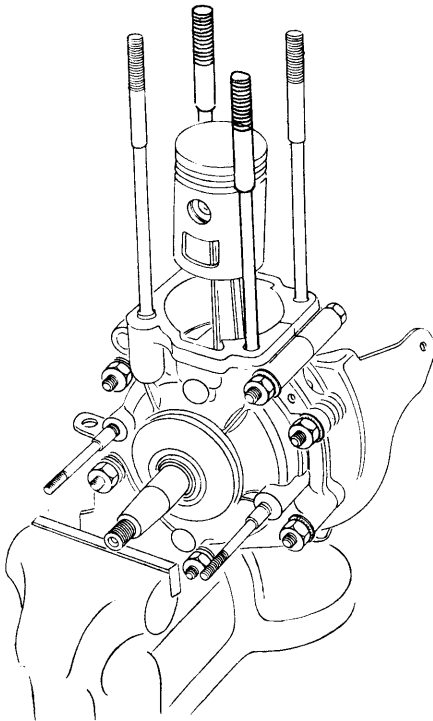

Fig. 5
- Place a spacer between the lower engine mounting brackets to hold the engine firmly in the vice (fig. 5).